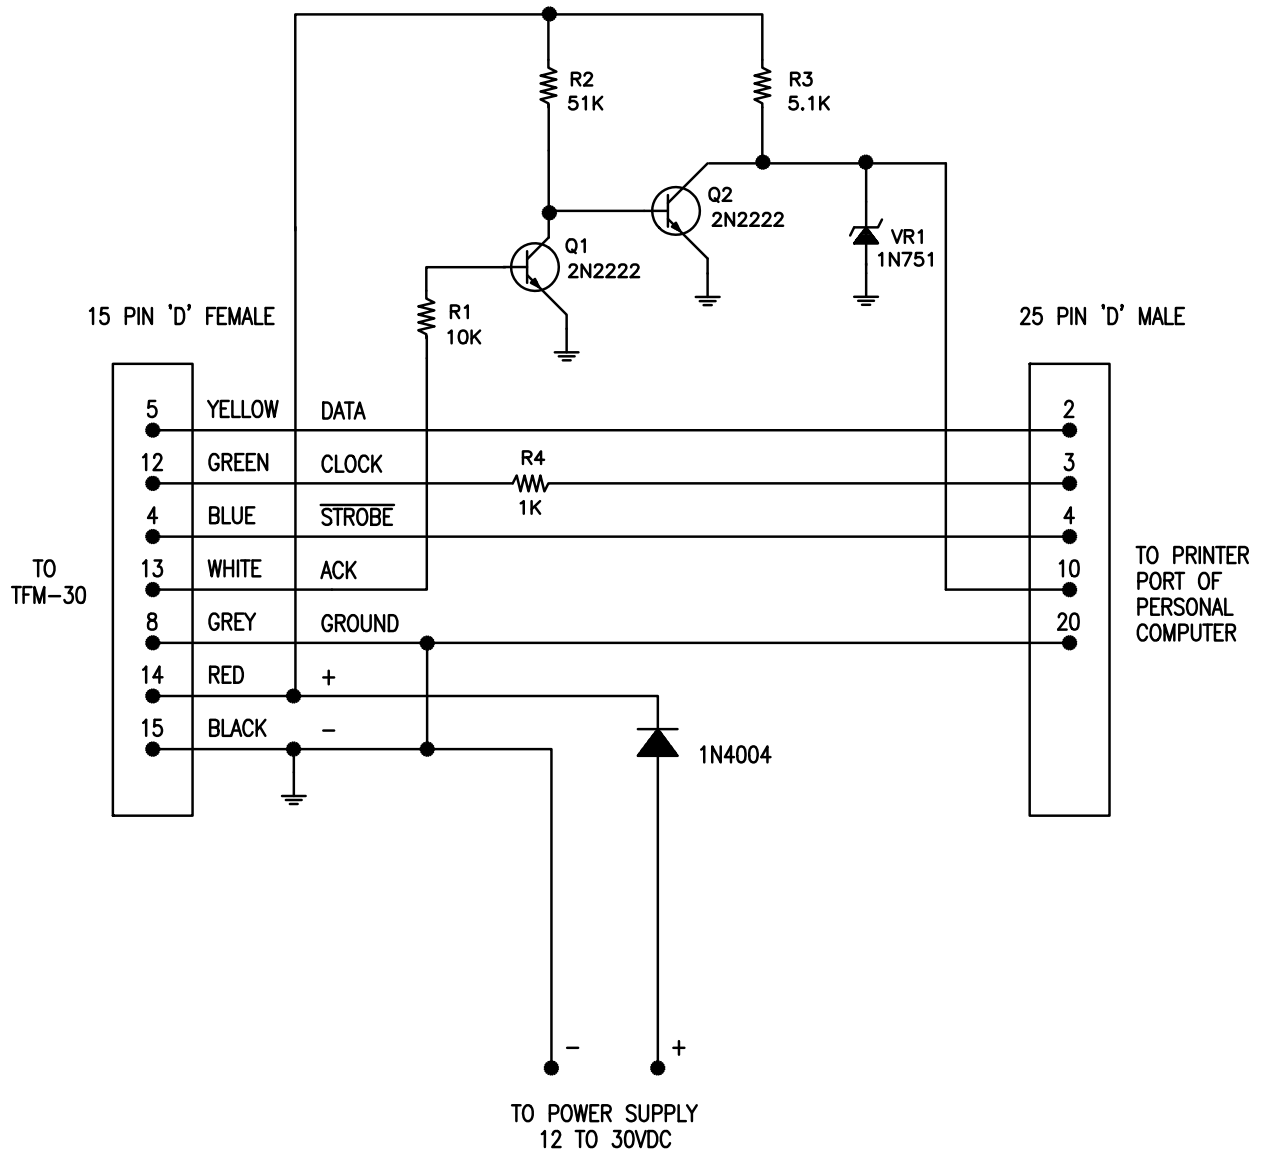

FIGURE 2.2 TFM-30 Transceiver PC Up/Download Cable - wiring diagram
Do not use cable P/N 943165-4 which is shown in FIGURE 2-2. It is for use with the DOS-program only.
3. PC Download cable (P/N 943165-4) see FIGURE 2-2.